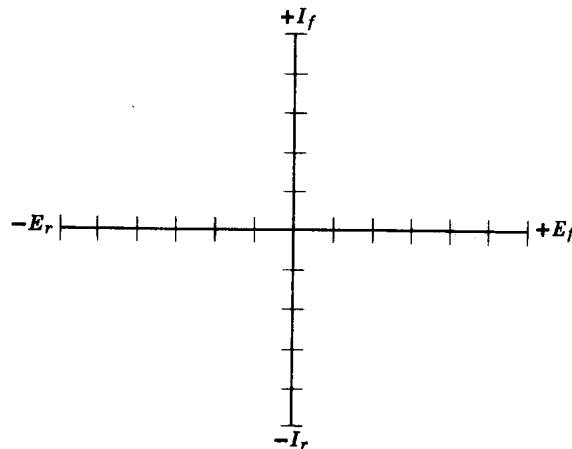

Fig. 3. Forward and reverse volt-ampere characteristics.
4. Plot the forward and reverse volt-ampere curves in Fig. 3.